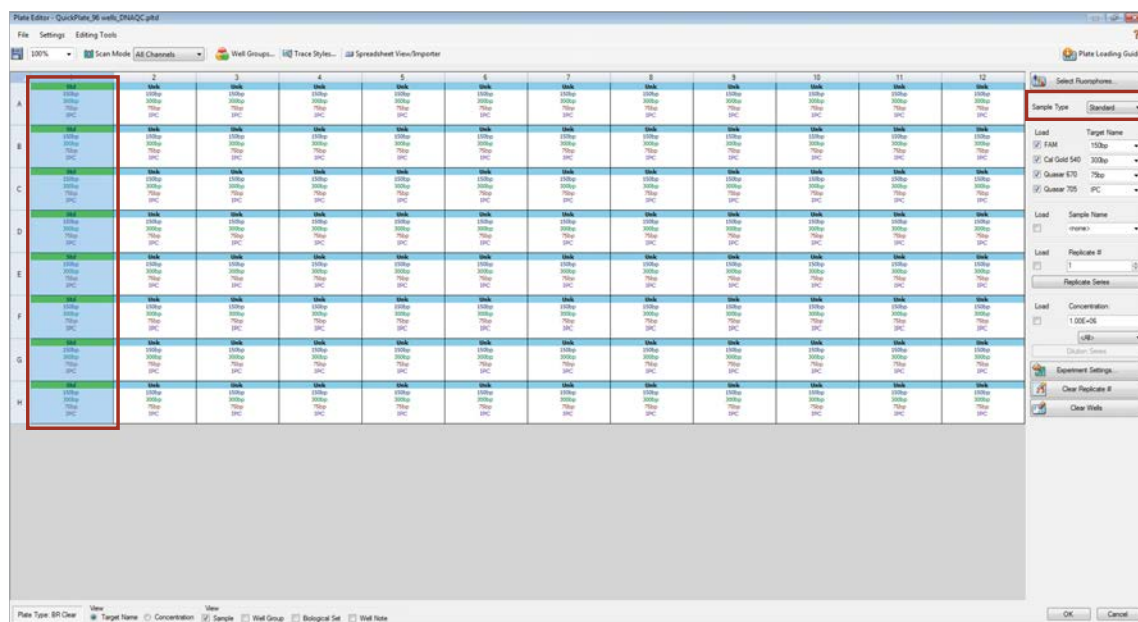

Figure 7. Assigning Standards.
1. Highlight the wells containing the DNA standards and use the Sample Type drop-down menu to change the well assignment from Unknown to Standard. “Unk” should change to “Std” for the selected wells (Figure 7).